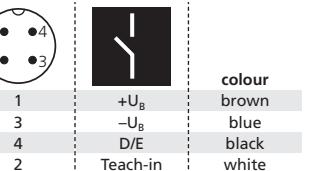

Fig. 1: Pin assignment with view onto sensor plug and colour coding of the microsonic connection cable
- Connect a connection cable to the M12 device plug, see Fig. 1. The assembly distances shown in Fig. 2 for two or more sensors should not be fallen below in order to avoid mutual interference.